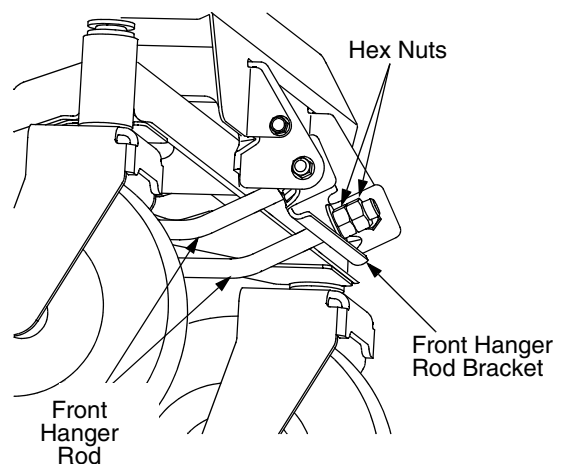

Figure 31
- From the front of the tractor, loosen the outer nuts on the deck front hanger rod, and turn them away from the inner nuts. See Figure 31.
- If the front of the deck was too low, turn the inner hex nuts clockwise against the hanger bracket to shorten the front hanger rod and raise the front of the deck. See Figure 31.